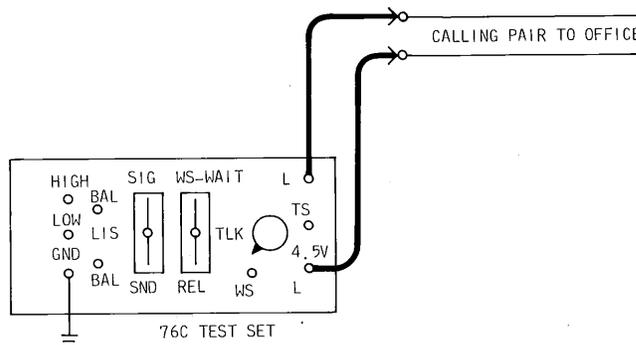

Fig. 26—Connecting Calling Circuit Pair
- 1 Connect the "calling" circuit pair to the L posts as shown in Fig. 26 and throw the keys to the LIS and WS-WAIT positions.